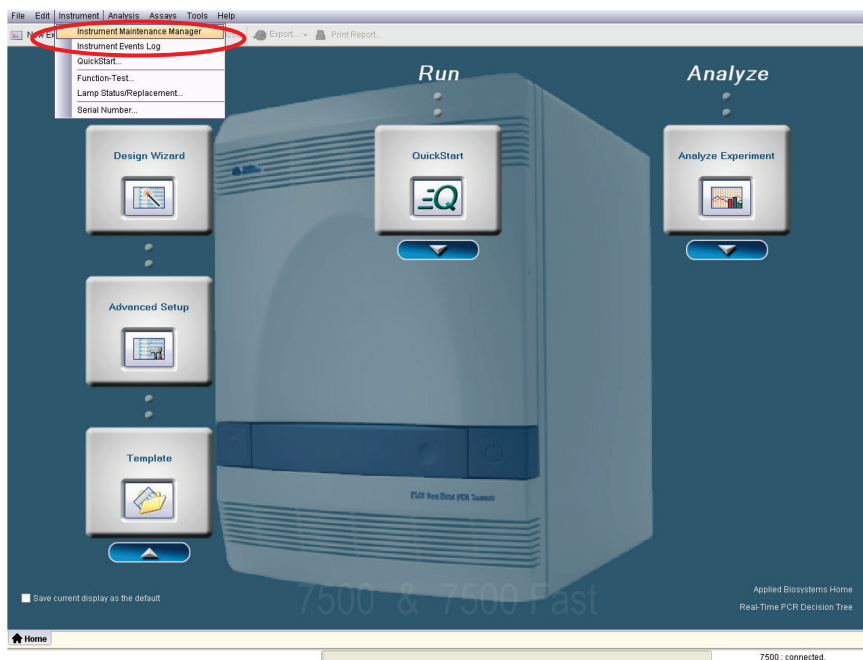

Figure 13. Selecting the Instrument Maintenance Manager.
11. Open the 7500 Software v2.0.6 and select the **Instrument Maintenance Manager** from the instrument menu (Figure 13).